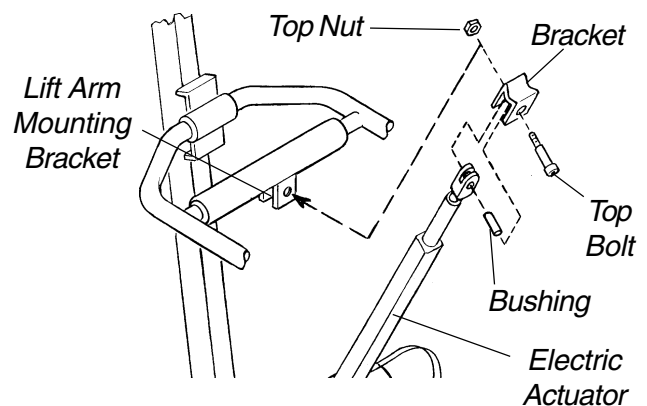

FIGURE 2 - ATTACHING ELECTRIC ACTUATOR TO MAST
ATTACHING ELECTRIC ACTUATOR TO MAST (FIGURE 2)
2. Position the electric actuator in the lift arm mounting bracket as shown in **FIGURE 2**.